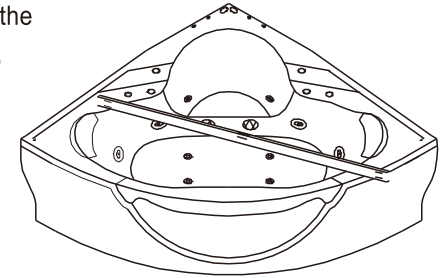

Fig. 3
2、 Adjust the level --using the level gauge on the surface of the bathtub to see whether the it is on the level. Fit's not on the level (as the Fig.3), tweak to loose the tight bottom screw, adjust the height of the screw to make the bathtub on the level (as the air in the middle of the level gauge), and then screw down it. This step is veryimportant, if the level isn't adjusted, it will make the bathtub sloped and not fastness and find the installation of the screw is any other problems.